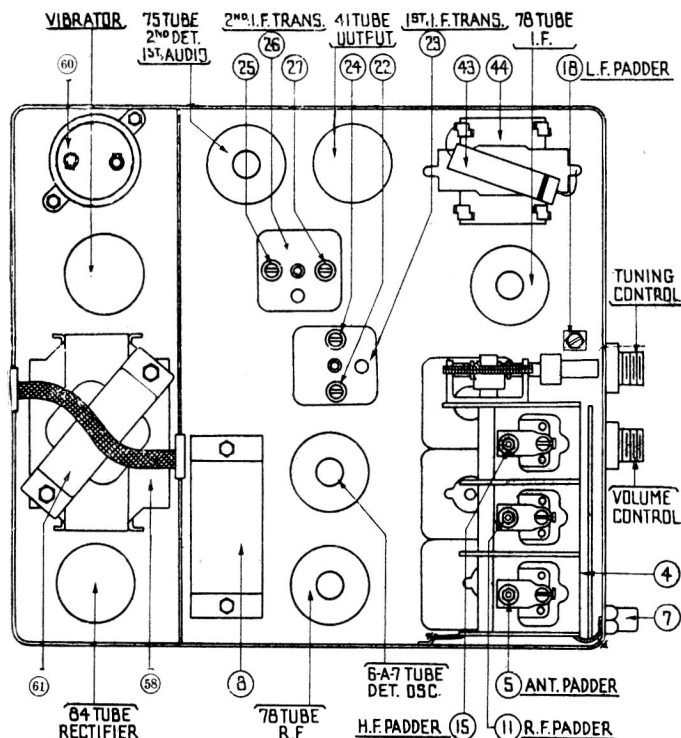

FIGURE 4
Both the primary and the secondary padders are placed side by side in the top of the transformer shield can. The adjusting screws are accessible thru the holes in the top of the shield. (See Figure 4).
Adjust the secondary screw padder (27) on the second I.F. transformer for maximum reading on the output meter. Then adjust the primary screw padder (25) for maximum reading. (See Figure 4 for location of padders).
Connect the generator lead to the grid cap of the 6A7 tube in series with a .1 mfd. condenser (without removing the grid cap). Adjust the secondary screw padder (24) on the first I.F. transformer for maximum reading on the output meter. Then adjust the primary screw padder (22) for maximum reading. Readjust padders (25) and (27) with the generator lead connected to the type 6A7 tube. (See Figure 4 for location of padders).